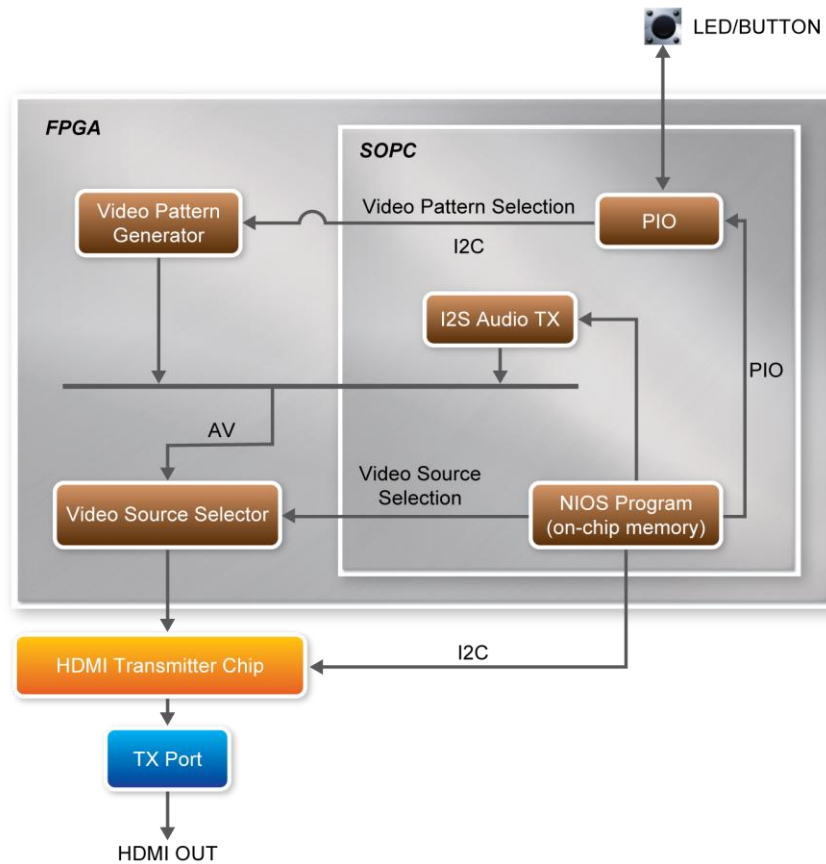

Figure 4-1 System Function Block Diagram
**Figure 4-1** shows the system function block diagram of this demonstration. In the design, SOPC is included because Nios II processor is used to control the transmitter through I2C interface. The Nios II program is designed to run on the on-chip memory. A customized I2S controller is designed to generate I2S 48K stereo audio for the HDMI transmitting-only mode. The audio data is stored in the on-chip memory and sent to the HDMI transmitter by Nios II processor.